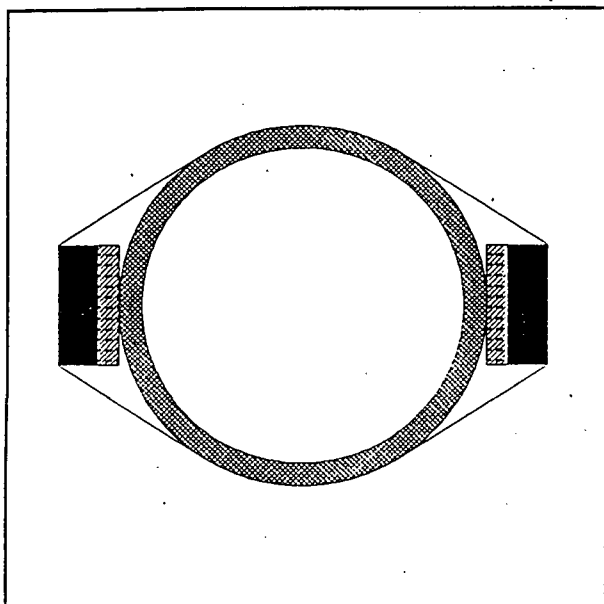

Figure 5-1
1. At the site where the transducers are going to be mounted (Figure 5-1 and 5-2), clean an area on the pipe slightly larger than the transducer to the bare metal.
- For less than 24-inch diameter pipe, mount the transducers opposite each other at the 3 o'clock and 9 o'clock position (Fig 5-1).